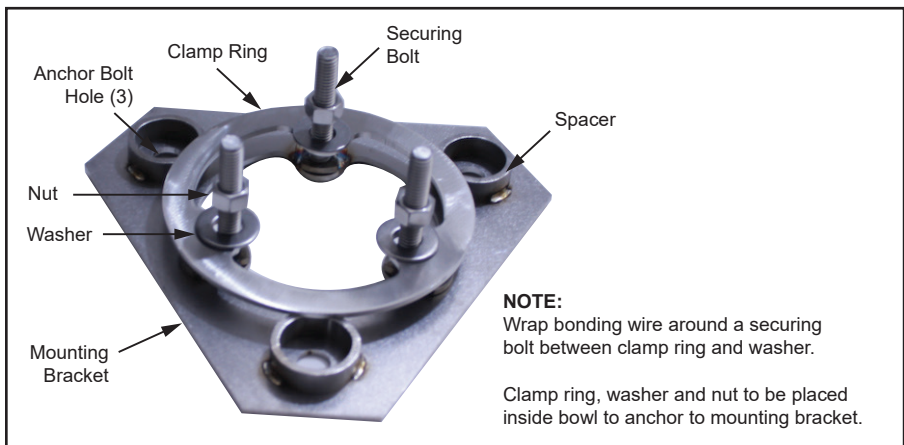

Figure 1. Mounting Bracket Components for Securing and Bonding of Bowl
2. Wrap copper bonding wire around a securing bolt between the clamp ring and washer. See Figure 1 for mounting bracket components.